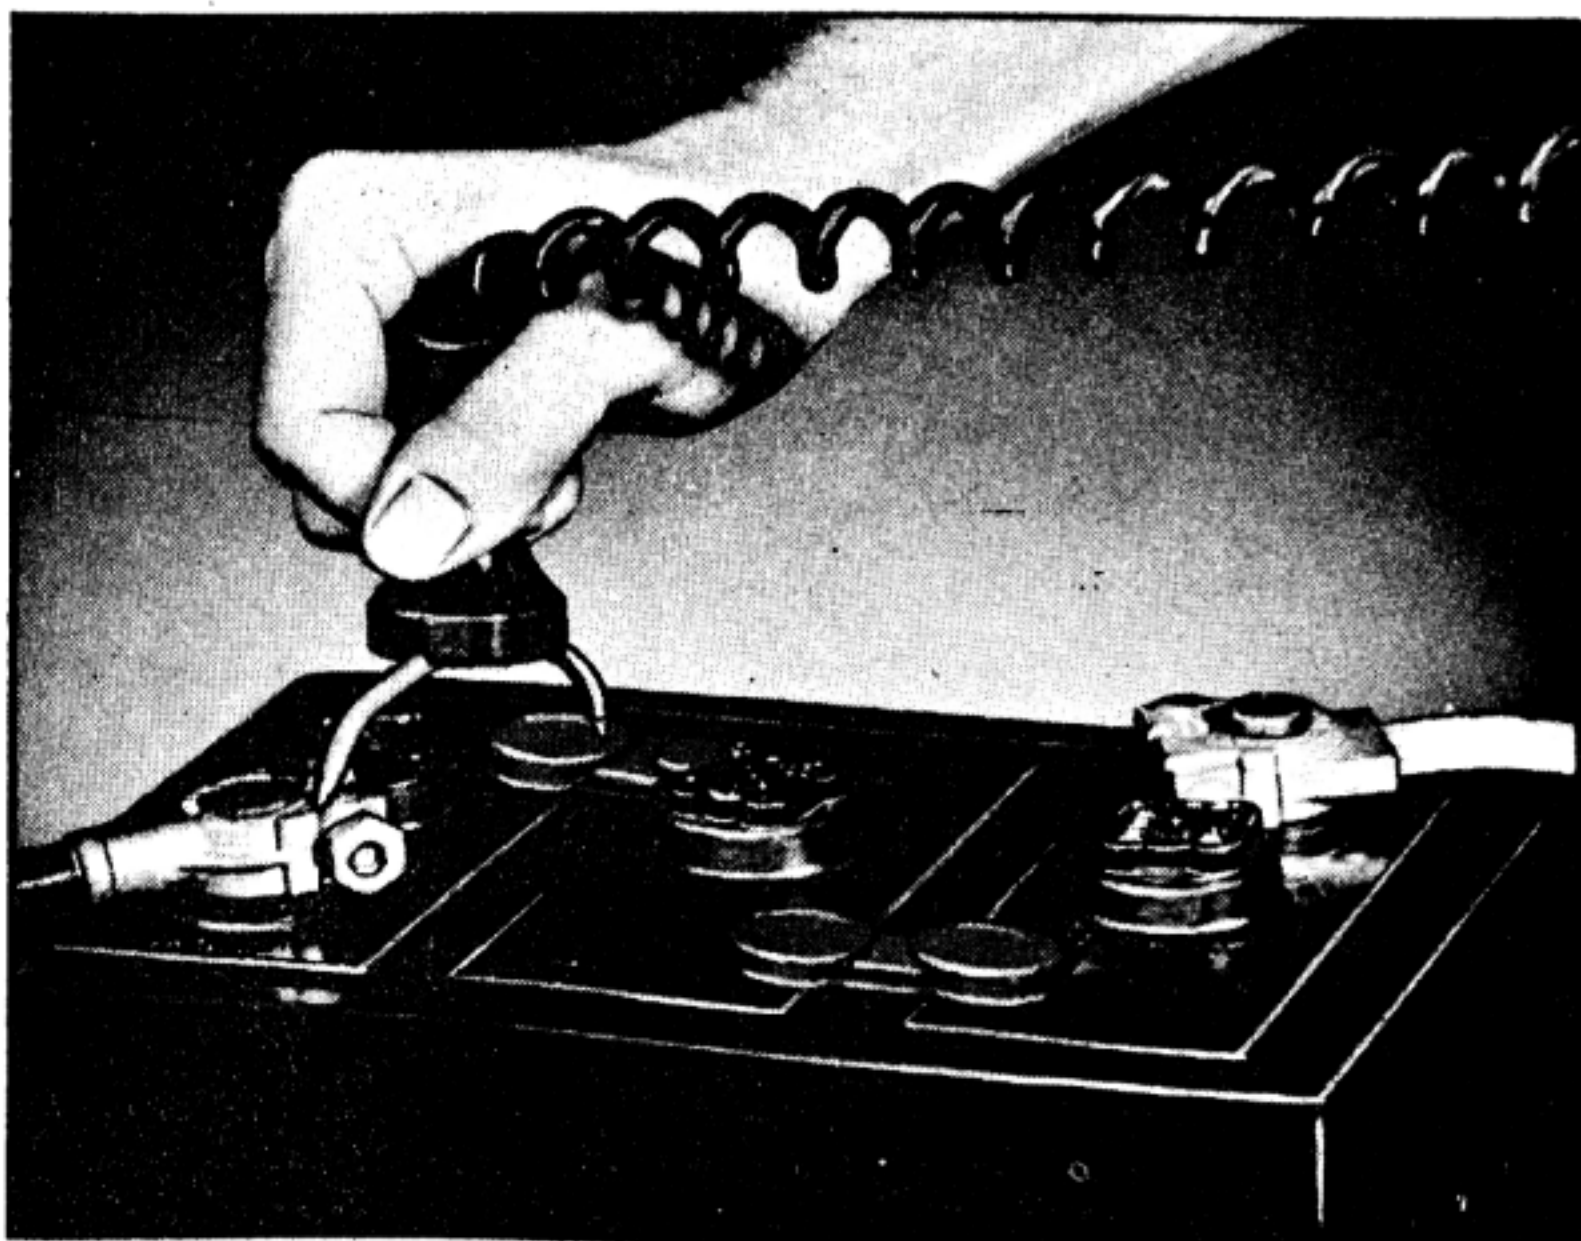

Figure 5: Testing cable connections.
5. After completion of cell readings as described, and with starter still engaged, move the instrument prod from the battery terminal post to cable terminal (see Figure 5), and check for any difference in readings. If the voltage drops, you know there is a poor cable terminal connection. Remove and clean the cable connection. Repeat test, and if voltage still drops suggest a cable replacement.